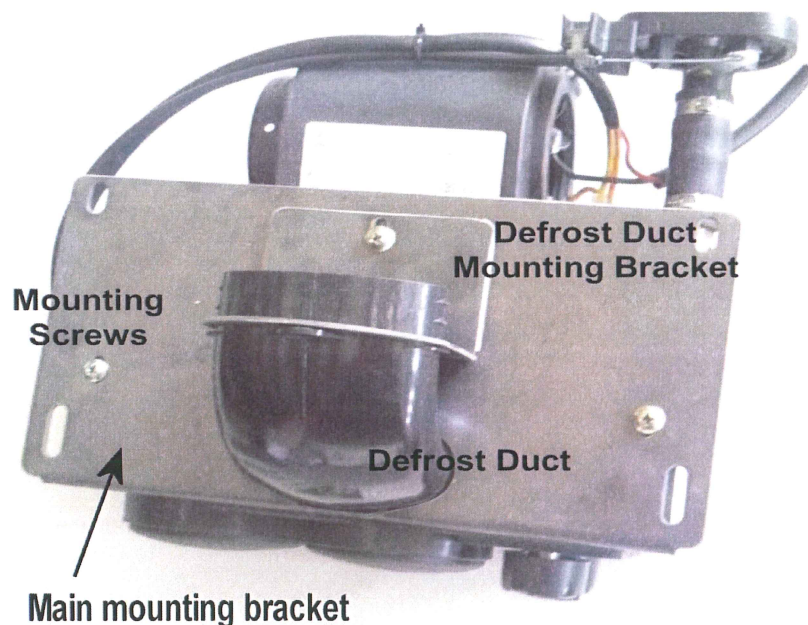

Figure 6
14. Insert the non-flanged end of the Defrost Duct Elbow into the oval hole in the Main Heater Mounting Bracket, see Figure 6. Mount the Defrost Duct Mounting Bracket to the Main Heater Mounting Bracket. The oval hole in the Defrost Duct Bracket should fit over the Duct Elbow and rest flush with the plastic flanges. Attach using supplied plastic mounting screws on both top and bottom side of brackets.